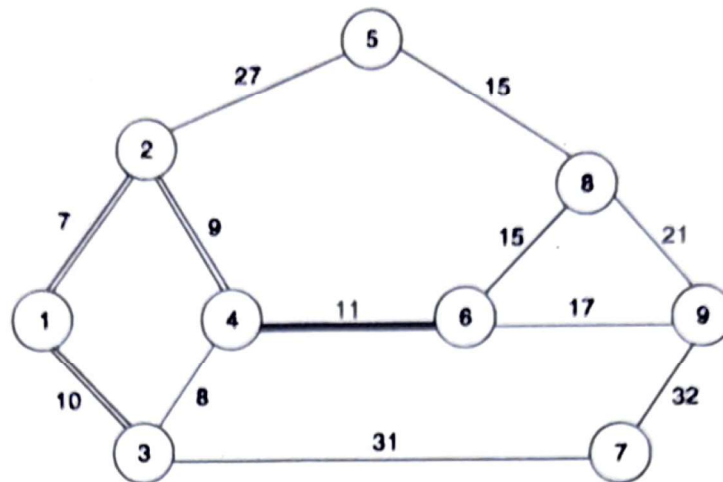

Fig. 5.11 Network showing partial solution.
2.2 The iteration among the preceding iterations in which the distance to L from the starting node is different from X is the Iteration 3. The node selected in that iteration is 4. So, thicken the arc 4-6 as shown in Fig. 5.11.